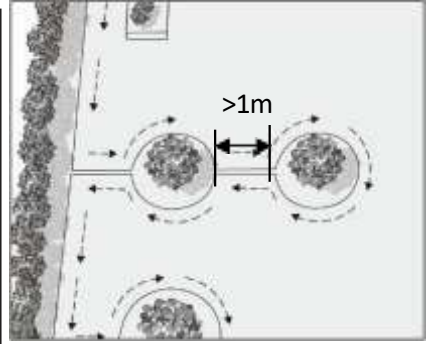

Fig.3C
7. Min. distance between islands: 1m (3.3ft). Otherwise, demarcate jointly as one island (Fig.3C).